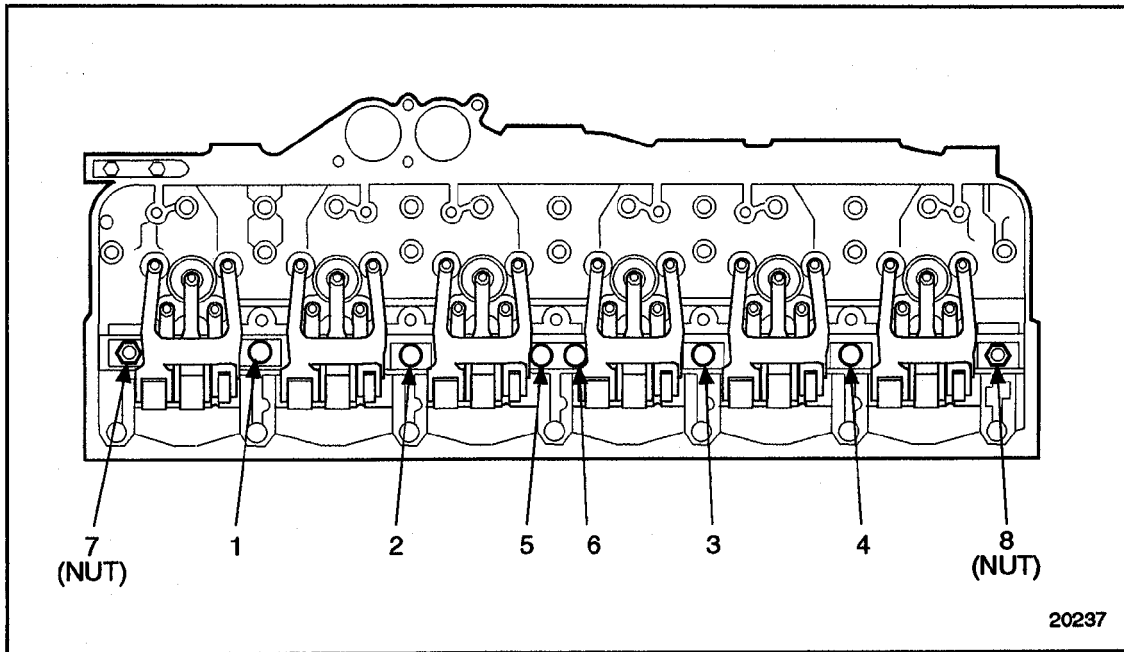

Figure 1-60 Rocker Arm Shaft Retaining Bolt and Nut Tightening Sequence
9. Tighten the rocker arm shaft nuts to 101-116 N·m (75-86 lb-ft) torque using the sequence. See Figure 1-60.